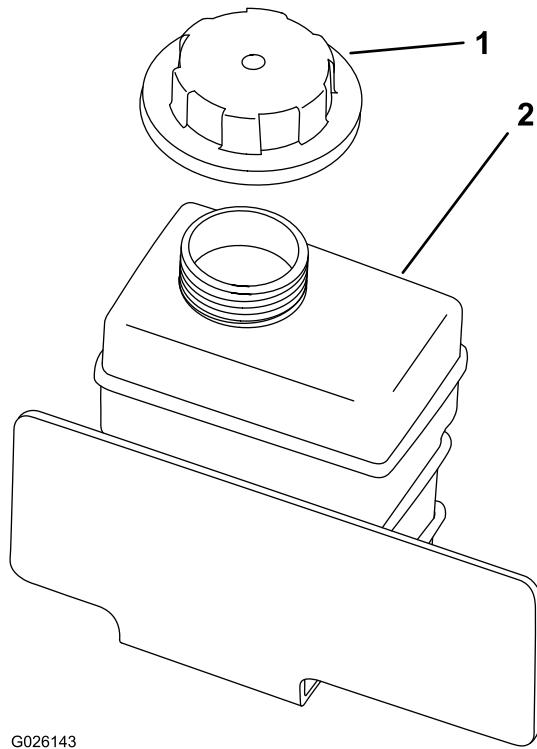

Figure 61
4. Remove the reserve-tank cap (Figure 61).